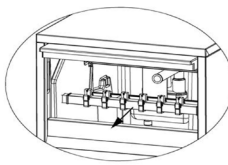

Fig 4
2. Take off the spray pipe connection (the silicone tube) then take out the spray pipe (Fig 4).